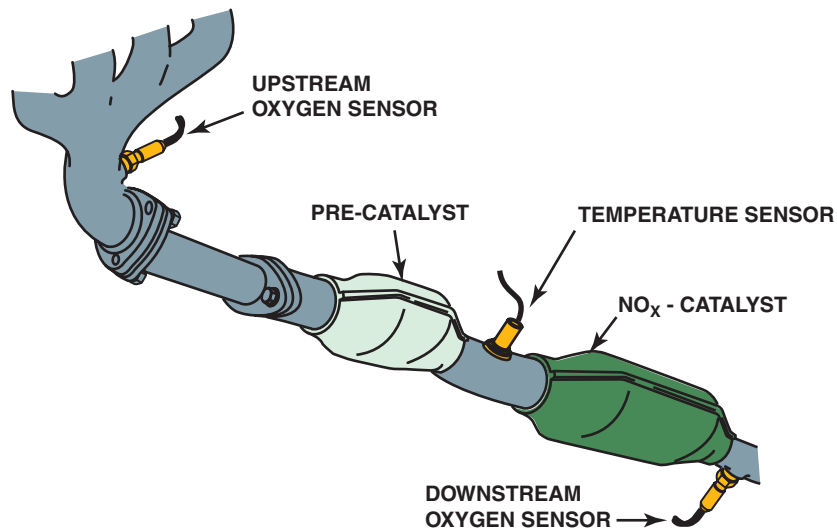

FIGURE 79-2 An engine equipped with a gasoline direct injection (GDI) sometimes requires a NO_x catalyst to meet exhaust emission standards.
- Due to the high compression, a NO_x storage catalyst is sometimes required to meet emission standards, especially in Europe (● SEE FIGURE 79-2).